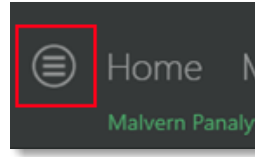

Figure 25: Application Menu button
2. Click on the **About** button (Figure 25)